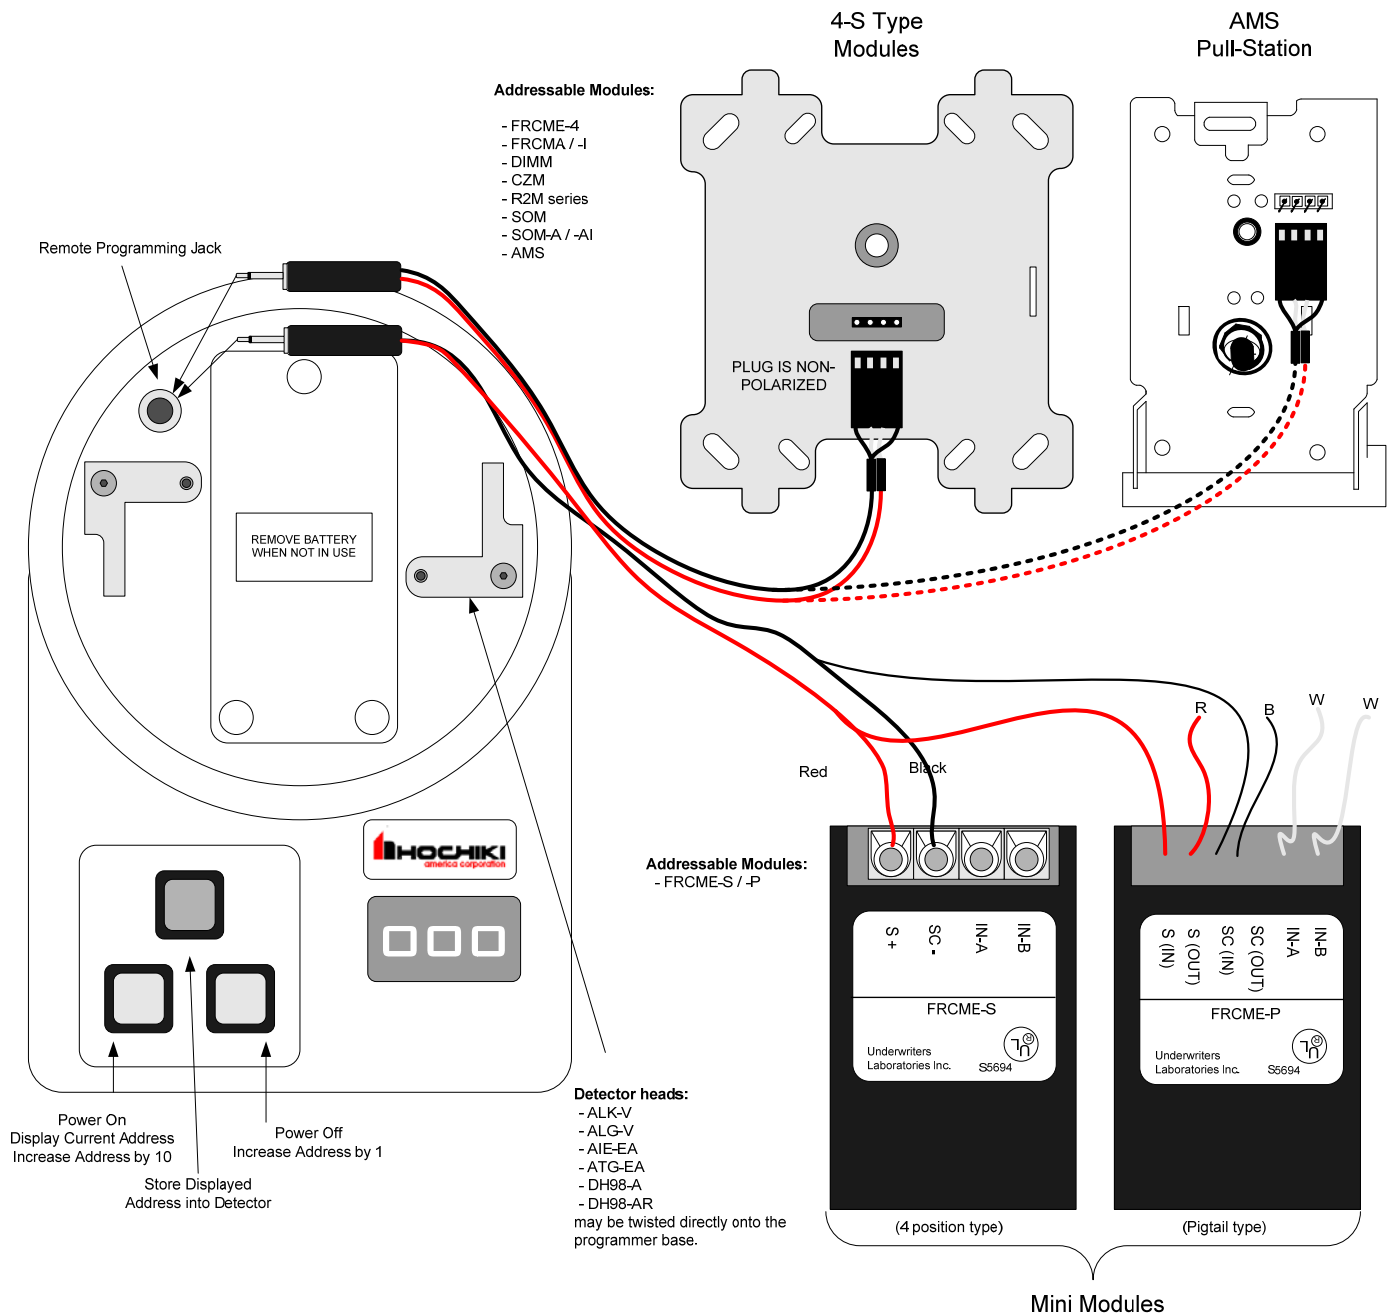

Figure 5.4 Hochiki TCH-B100-NS Programmer Connections
2. Using the Hochiki TCH-B100-NS programmer as shown in Figure 5.4, program the appropriate address into each analog addressable device.
This section applies to the following Hochiki analog detectors – ALK-V, ALK-V2, ALG-V, AIE-EA, DH-98 and ATG-EA. Follow these steps to program a new address into any one of these analog detectors. (Refer to Figure 5-4)
This section applies to the following Hochiki addressable modules - FRCME-4, R2M series, DIMM, CZM, SOM series, and AMS. Follow these steps to program a new address into any of these addressable modules. (Refer to Figure 5-4)
This section applies to the Hochiki FRCME-S and FRCME-P addressable mini-module. Follow these steps to program a new address into any of these addressable modules. (Refer to Figure 5-4)